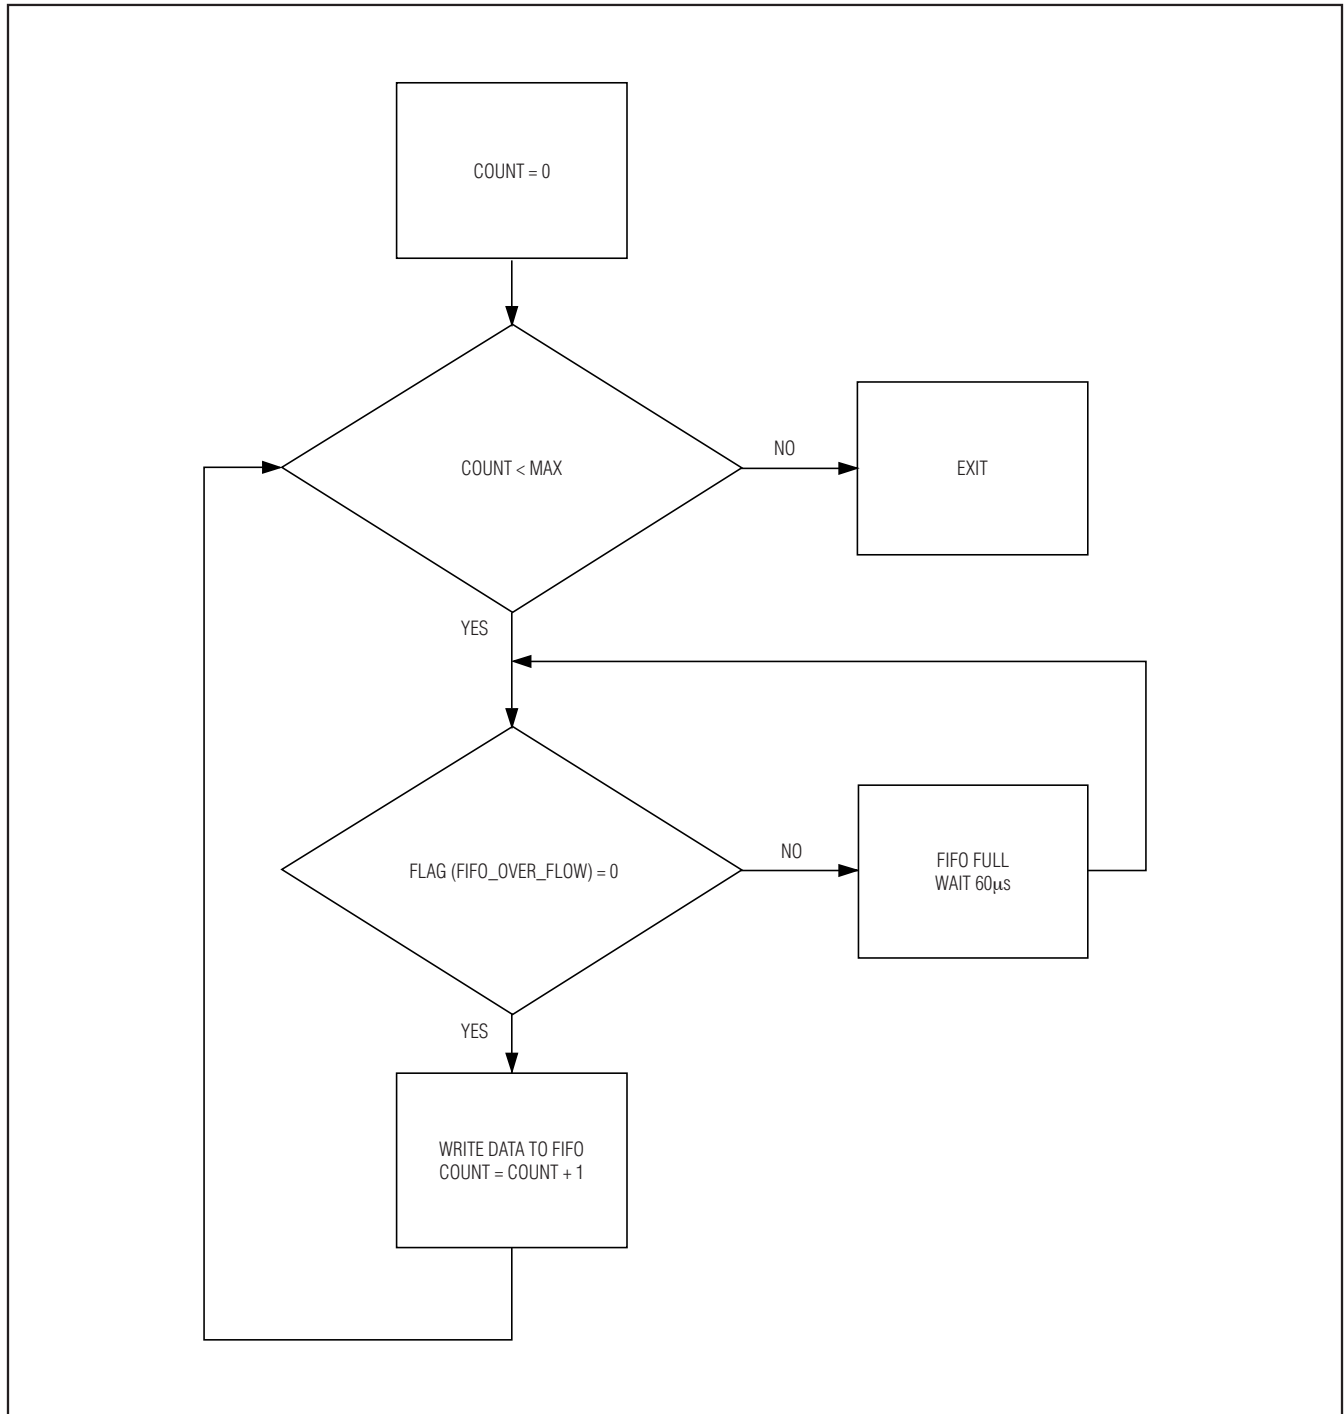

Figure 17. Software Flow Control Example (Pseudo Code)
- 3) FIFO Status Monitoring—By setting the FIFOSTAT bit (D11) to 1 in the Hardware Configuration register, the ALARM output is used to indicate FIFO status. When the FIFO is full, the ALARM output goes low and returns high when there is space in the FIFO for another data word. See Figures 17 and 18.